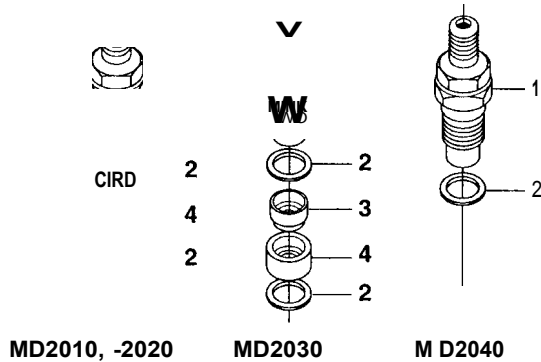

Fig. 34. Fitting of injectors
11. Fit the copper gaskets, heat shields (MD2030) and inserts (MD2O10-MD2030) to the injectors as per Fig. 34.